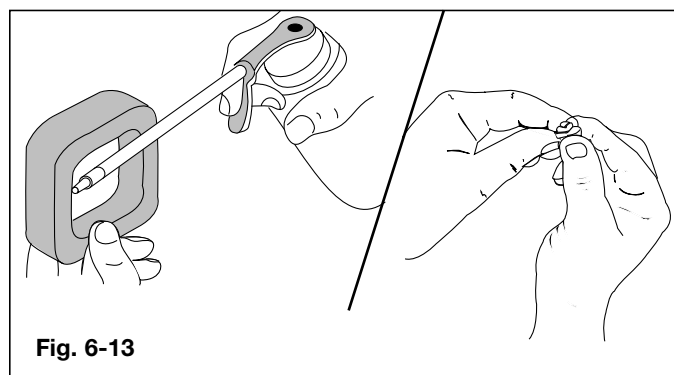

Fig. 6-13
4. Apply enough clean SAE 30 motor oil to lightly coat the filter (Fig. 6-13).
5. Squeeze the filter to spread and remove excess oil (Fig. 6-13).